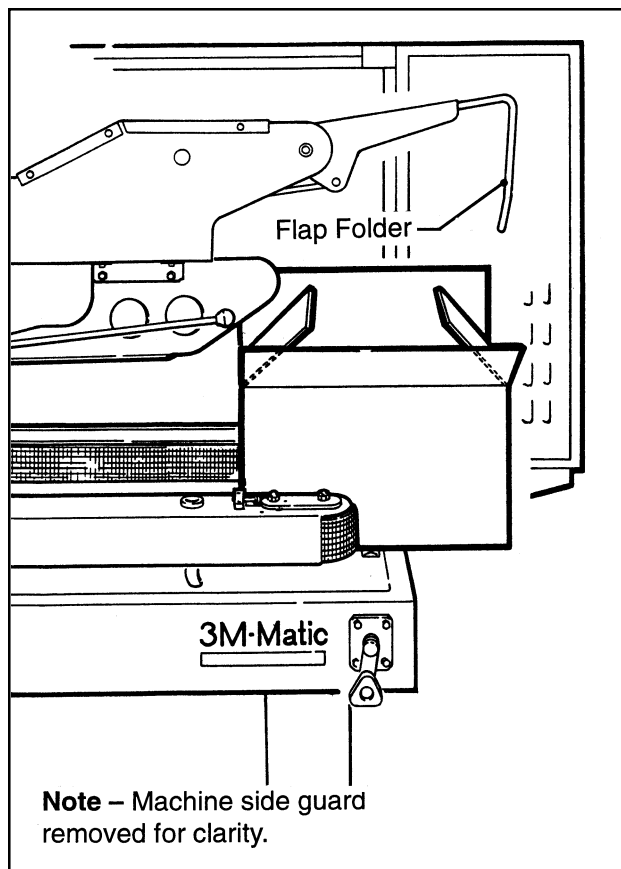

Figure 3-5 – Box Size
1. REAR FLAP FOLDER (Figure 3-5)